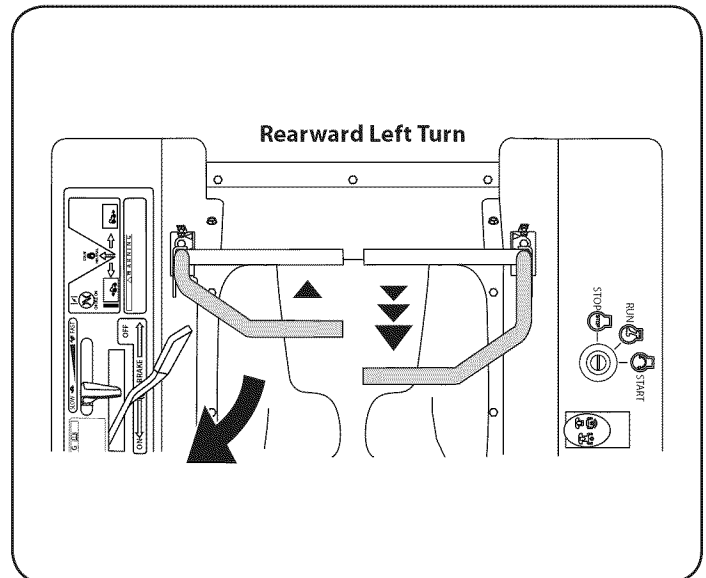

Figure 19
1. To turn to the left while traveling in reverse, move the left drive control lever forward of the right lever. See Figure 19.